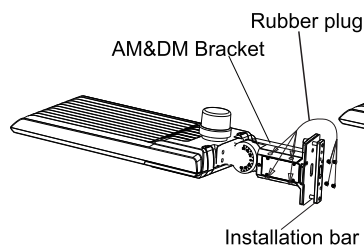

Figure 15
Step 1: Remove the four bolts from A&D bracket, remove the four rubber plugs from installation bar, put the four rubber plugs on the place where the four bolts were previously placed on the bracket for waterproof purpose (Figure 15)